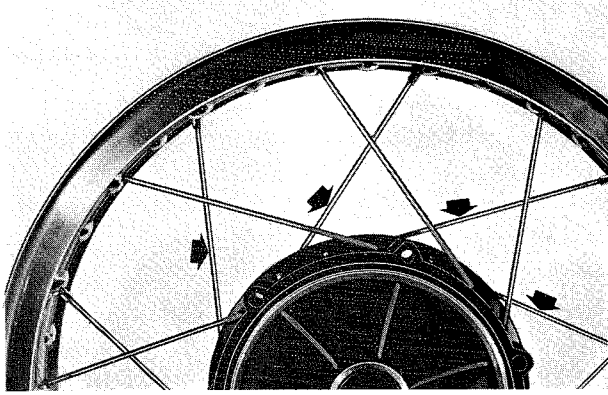

Fig. 11
11. Then assemble the spokes which have been stuck downwards (the rivet outwards). These are assembled in the opposite rotation direction so that every second hole in the rim is filled with spokes from the side of the brake backing plate on the hub. See figure 11.